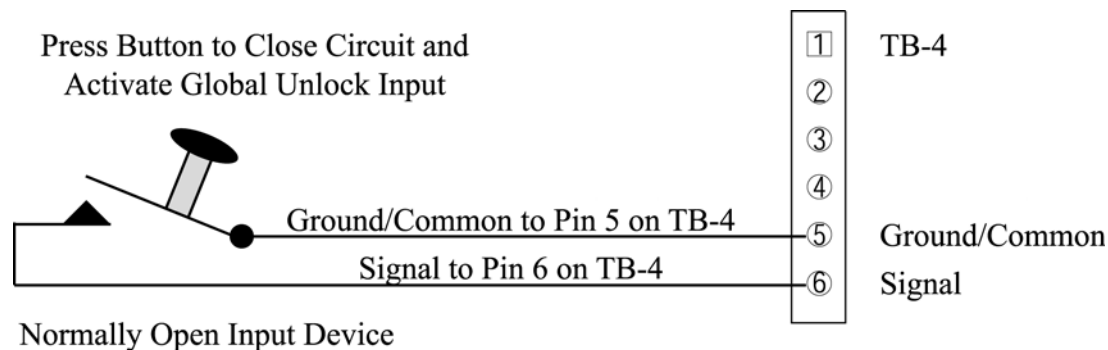
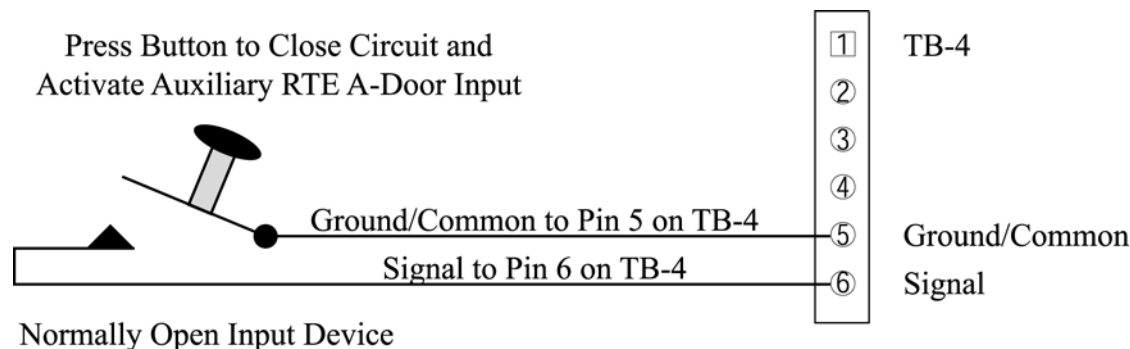

Figure 8: Global Unlock Input Connections
Figure 9: Auxiliary A-Door RTE Input Connections
- the master controller may be configured for either Global Unlock (see Figure 8) or Auxiliary A-door RTE (see Figure 9)
- the slave unit can only be configured for Auxiliary A-door RTE (see Figure 9)